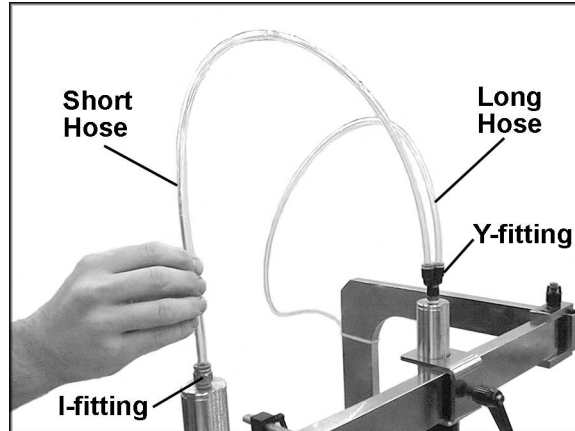

Figure 13
1. Insert the loose end of the long air hose into the Y-fitting as shown in Figure 13.
2. Insert one end of the short air hose into the Y-fitting, and the other end into the I-fitting. See Figure 13.